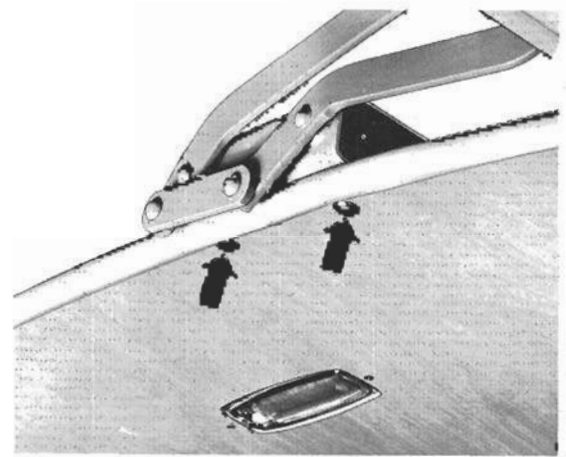

Fig. 7-42. Phillips head screws with self-locking nuts. These screws hold the front hinge on the trim pane and roof pan.
3. Remove the two screws indicated in Fig. 7-42 from the front hinge.